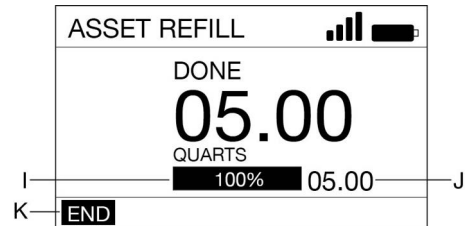

FIG. 31
- END (K) is highlighted on the screen. Press the ENTER button to select (FIG. 31).